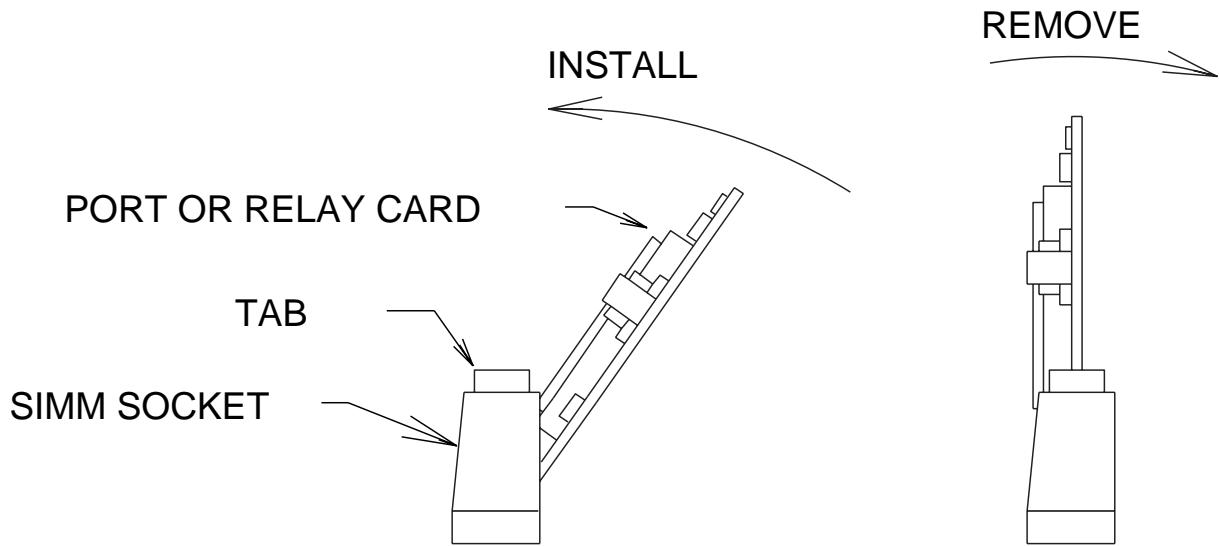

Figure 12. Card Installation and Removal
Dual relay cards (DTI P/N 300-3020-001) mount only in slots JP9 through JP12 and should be mounted sequentially beginning with slot JP9. Refer to Figure 12 when installing or removing port or relay cards.
- c. To remove the card (see Figure 12) pull the tabs on the retainer outward until the card is released. When the card releases, it will rotate toward the rear of the unit.